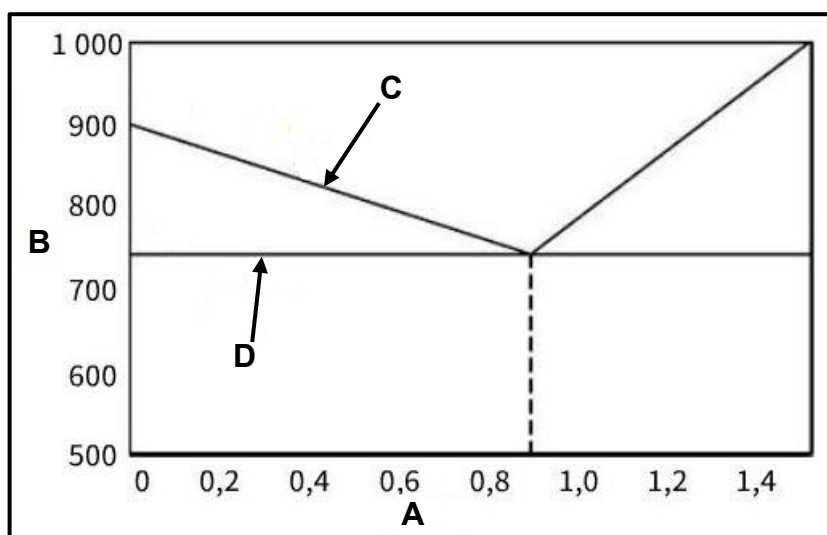

FIGURE 3.2
- 3.2 FIGURE 3.2 below shows the iron-carbon equilibrium diagram. Label A–D.